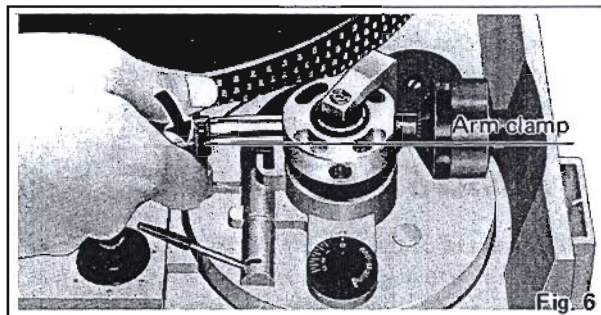
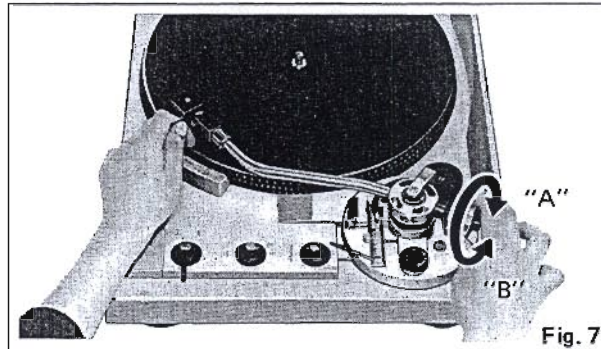

Fig. 6
Fig. 7
Release the arm clamp (See Fig. 6) and lift the tonearm from the arm rest to free the tonearm. (See Fig. 7).
If the tonearm pulls toward the arm rest when the tone-arm is held in a free state as in Fig. 7, rotate the turntable platter clockwise about 10 times. This will disengage the automatic mechanism from the tonearm gear which in rare cases may have moved out of its normal position during transportation.
- ④ Turn the entire balance weight clockwise (indicated by the arrow "A") or counterclockwise (indicated by the arrow "B") until the tonearm is approximately balanced horizontally. (See Figs. 7 and 8).